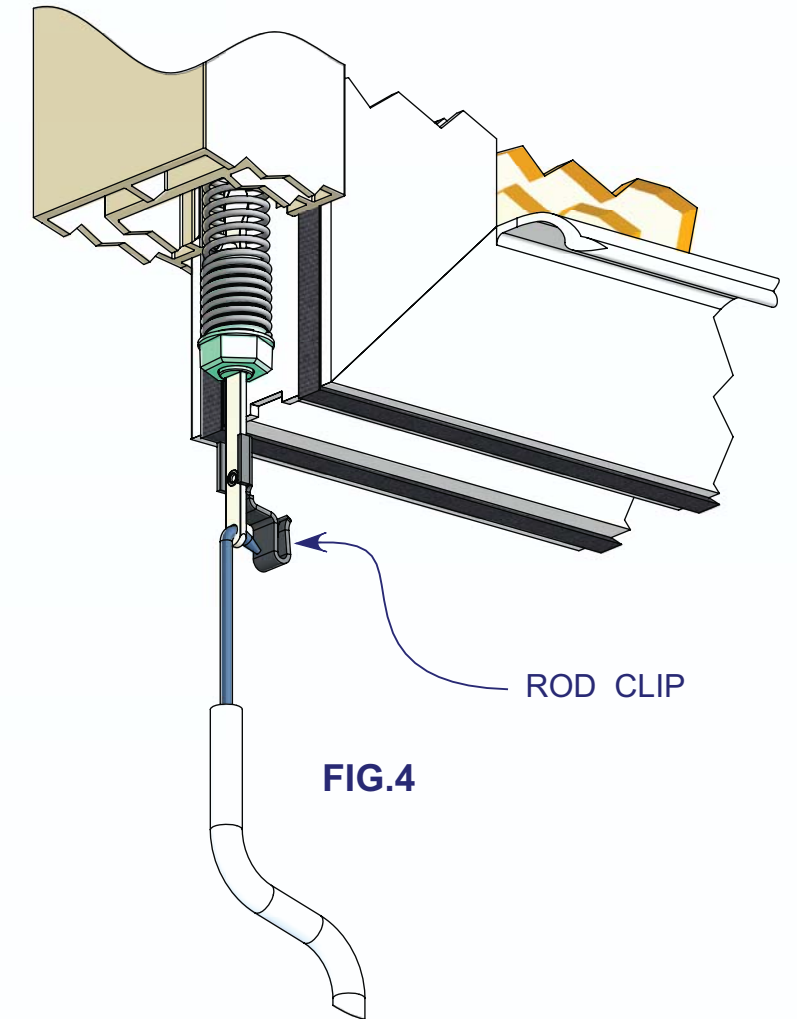

FIG.4
3. EXTEND ROD AND INSERT THE ROD CLIP INTO THE CUT-OUT IN BOTTOM OF SASH FULLY SEATING ROD CLIP . (SEE FIG.4 and FIG.5) (SEE SHEET 2 of 2 FOR SASH CUT-OUT OPTIONS and DIMENSIONS)